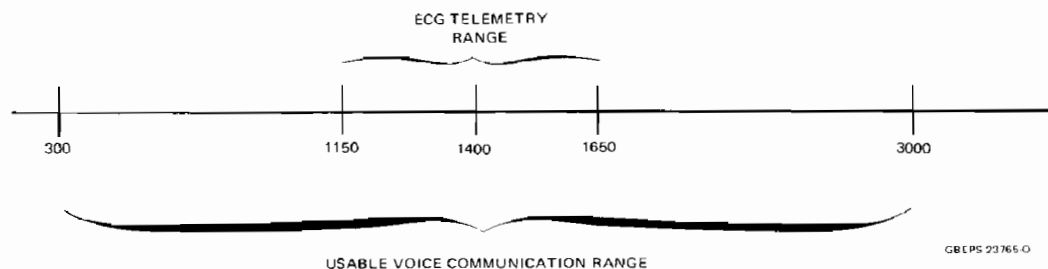

Figure 2. Frequency Spectrum of a Non-Multiplex System
3.1 One of the principal functions of the EMS system is the relaying of electrocardiographic data from the patient to the hospital for review and evaluation by the professional staff at the cardiac care unit (CCU) or the intensive care unit (ICU). Since this information has frequency components as low as 1/2 cycle per second, it cannot directly frequency modulate the RF carrier but rather frequency modulates a 1400 Hz carrier and occupies the 1150 Hz to 1650 Hz space of the audio spectrum (see Figure 2).